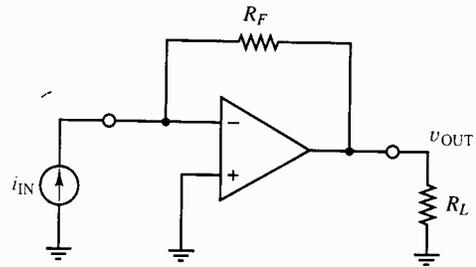

Fig. P10.60
10.60 The current-to-voltage converter of Fig. P10.60 is made from an op-amp with open-loop parameters $A_o = 2 \times 10^5$, $r_{in} = 2 \text{ M}\Omega$, and $r_{out} = 75 \Omega$. Suppose that $R_F = 1 \text{ M}\Omega$, and that the circuit drives an $R_L = 10 \text{ k}\Omega$ load resistor to ground. Find the transresistance gain, input resistance, and output resistance of the amplifier with feedback.
10.61 The simple op-amp circuit of Fig. P10.60 functions as a transresistance amplifier that converts a current signal into a voltage signal. If the op-amp has parameters $A_o = 500,000$, $r_{in} = 1 \text{ M}\Omega$, and $r_{out} = 25 \Omega$, find the values of the closed-loop A_r , R_{in} , and R_{out} .